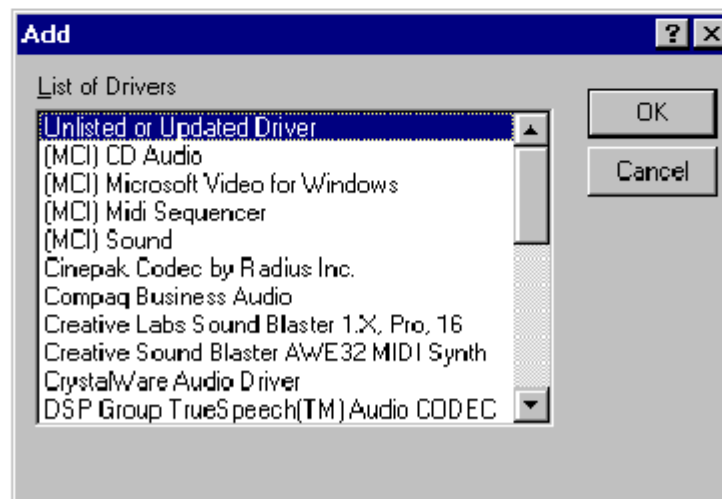

Figure2-2 The Addwindow.
- 7) TheAddwindow now appears.Highlight**Unlisted or Updated Driver**by clicking on it as shown in Figure 2-2 below. Clickthe **OK** button.